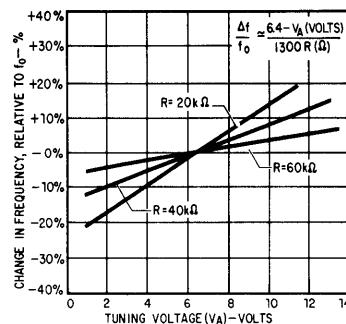

FIGURE 5
The percent change in the VCO free-running frequency, f_0 , as a function of the voltage applied to point (A) is shown in the curves of Figure 5. Note that with this fine tuning technique, it is possible to *increase* the VCO free-running frequency to a value greater than possible with just a trimmer capacitor alone. A formula for the approximation of the VCO frequency as a function of the voltage at point (A), the resistance values and the starting frequency, is given below: